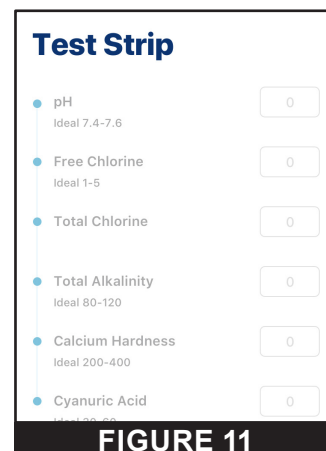

FIGURE 11
3. The Results Entry screen will display (**Figure 11**). Perform a water test and enter the results into the appropriate fields.